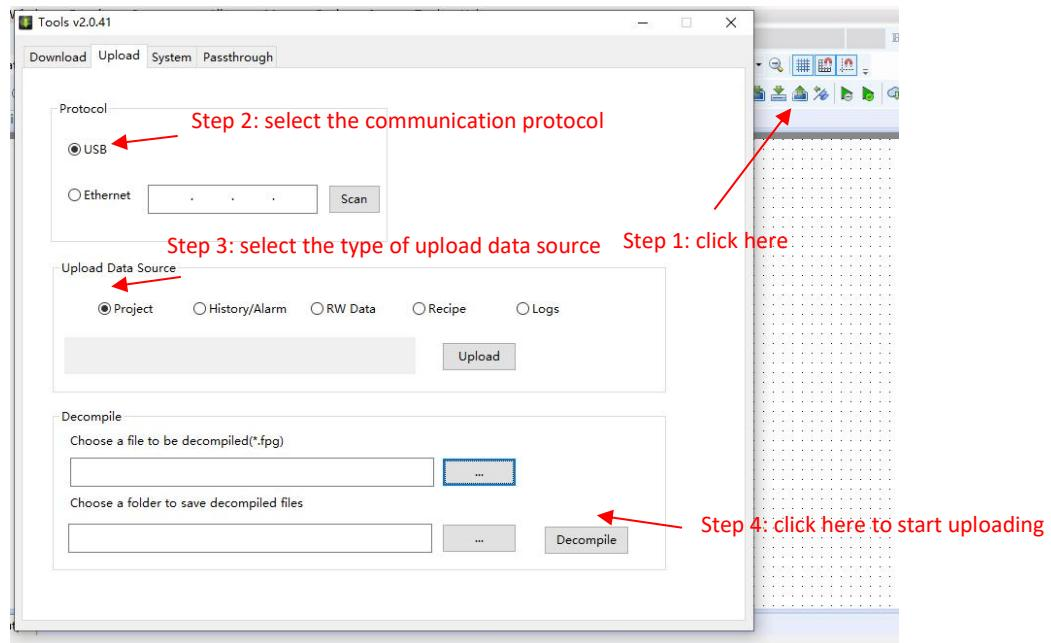

Fig. 20
①Click the “Upload” icon on the tool bar, set the communication mode, select to upload the project, and start to upload the project, as shown in Fig. 20.